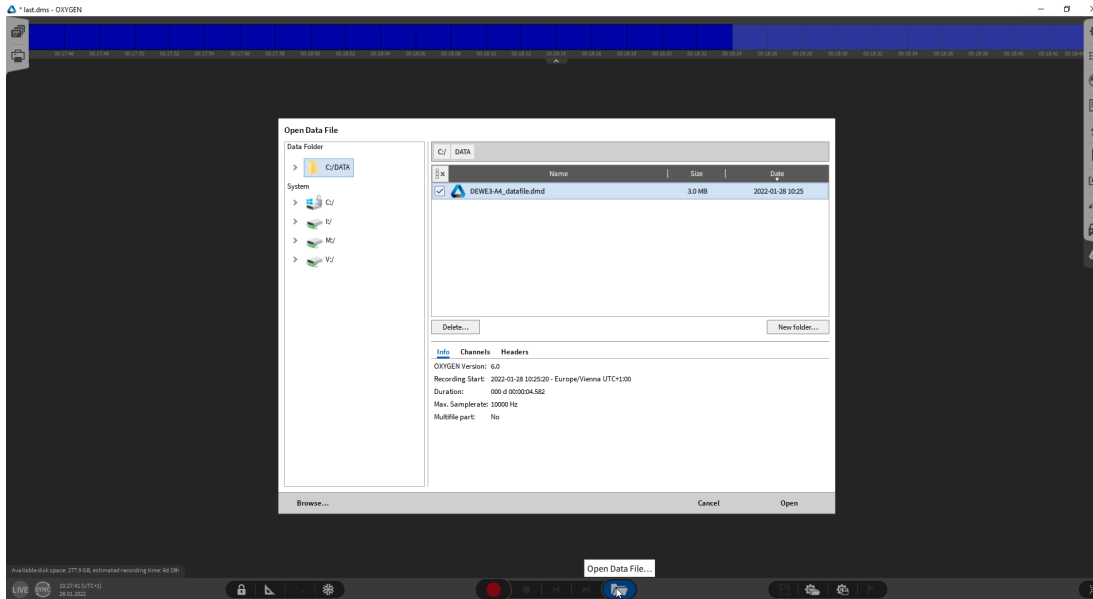

Fig. 27: Opening data file
1. Click on the file button, and select the corresponding file (see Fig. 27).